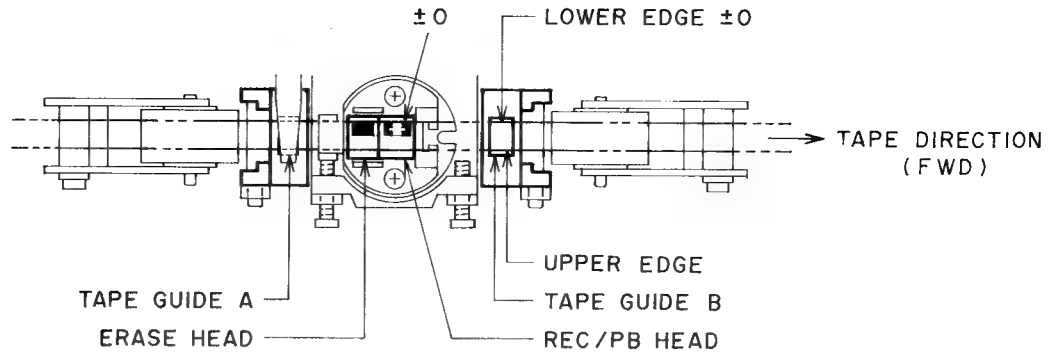

Fig. 8-1
- 1) Use the mirror tape (AJ-751178) and adjust the tape guide height with turning the tape guide height adjustment nuts (a) and (b) so that when in FWD Play mode, the tape edge and the head edge match as in Fig. 8-1.